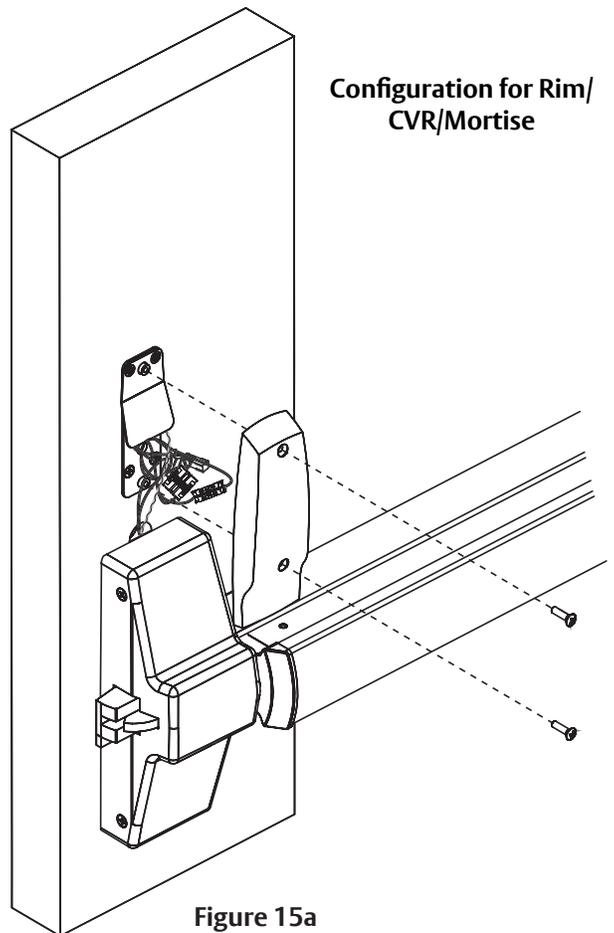

Figure 15a
3. Install inside escutcheon using (2) #8-32 x 5/8" oval head screws (Figure 15a).